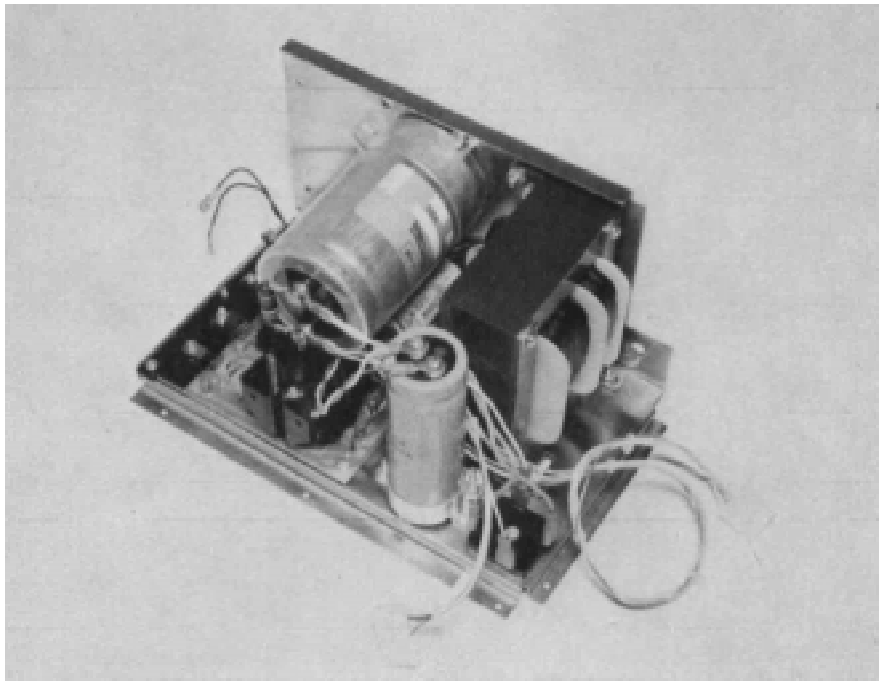

Figure 2-5. Sol-20 power supply subchassis assembly.
Position ring over the three mounting holes in the side wall of subchassis so the clamping screw faces the bottom of subchassis and so it will be accessible from the Sol-REG end of the subchassis. Insert three 6-32 x ½ binder or pan head screws from outer side of side wall through the mounting holes. Place #6 lockwasher on each screw and secure with 6-32 hex nut. Figure 2-5 shows an assembled Sol-20 power supply subchassis.
- *() Step 39. Mount C9 in its mounting ring with its "+" terminal slightly toward C8 and tighten clamping screw. (See Figure 2-5.)
- Solder a #10 lug to each lead of R13. Bend leads of R13 to fit the terminals of C9. (R13 should fit on C9 as shown in Figure 2-5.)